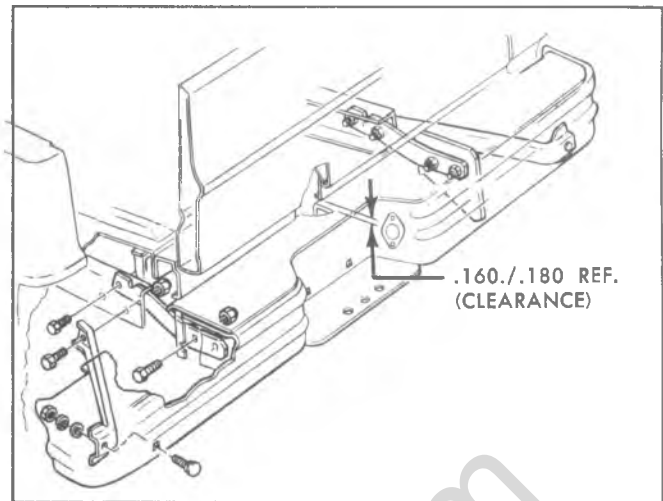

Fig. 2B-4--Rear Step Bumper C and K Models
4. If equipped with bumper guards (Fig. 2B-6) they may be removed from the face bar at this time.